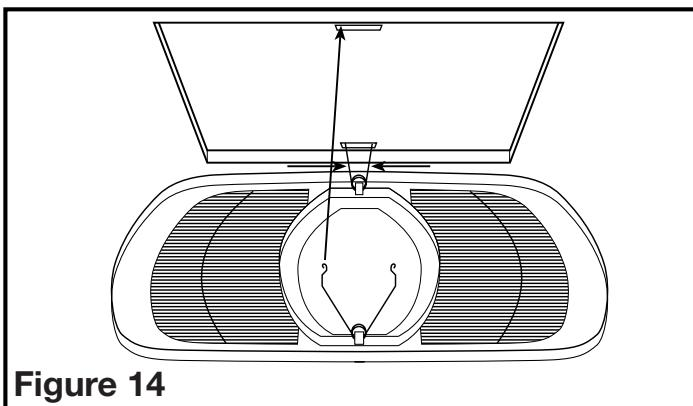

Figure 14
6. Install the grill (with reflector) by squeezing the two ends of the springs together and installing them up into the slots on the fan's housing. Push the grill up into position (**Figure 14**).